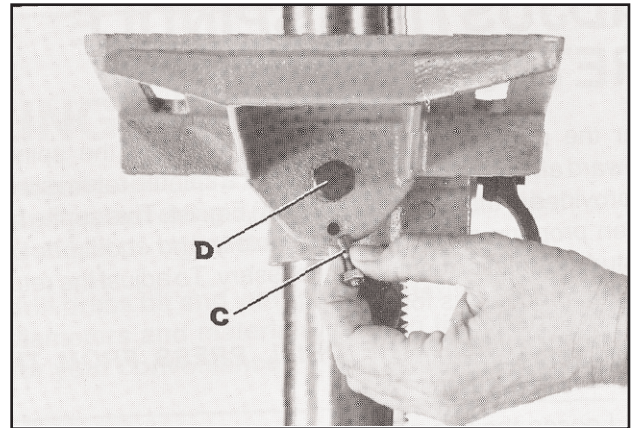

Fig. 21
4. When returning table to the level position, replace table alignment pin (C) Fig. 21. This will automatically position the table surface at 90 degrees to the spindle. Then tighten bolt (D).